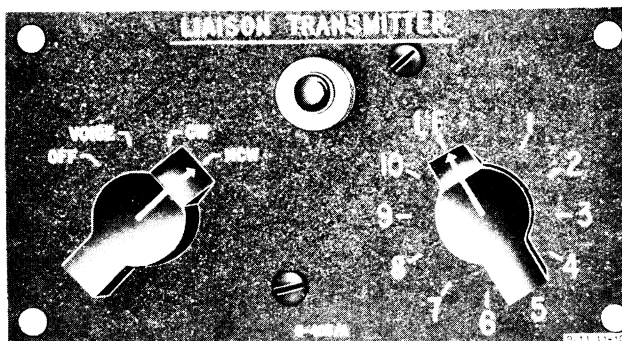

Figure 1-17—Control Panel C-405/A or C-405A/A
(3) For installations having standardized control panels, Control Panel C-405/A (see fig. 1-17) or C-405A/A replaces and performs all the functions (except key) of Control Unit C-87/ART-13. Control Panel C-405A/A differs from the C-405/A Model in that it has an edge-lighted lucite panel and two panel lamps. It is mechanically and electrically interchangeable with the C-405/A except that it has an additional wire to bring power to the lamps.